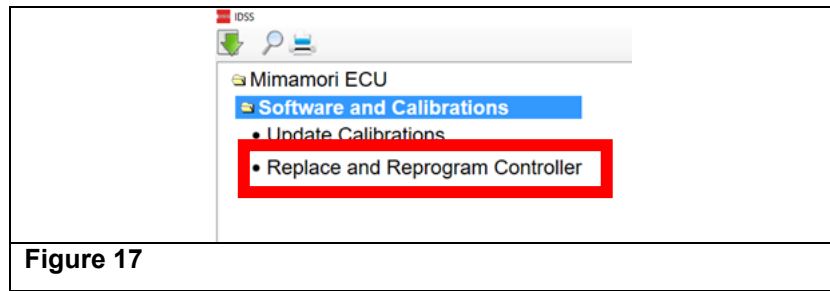

Figure 17
22. Select “Mimamori ECU”, then “Software and Calibrations” and then “Replace and Reprogram Controller”. (See Figure 17.)